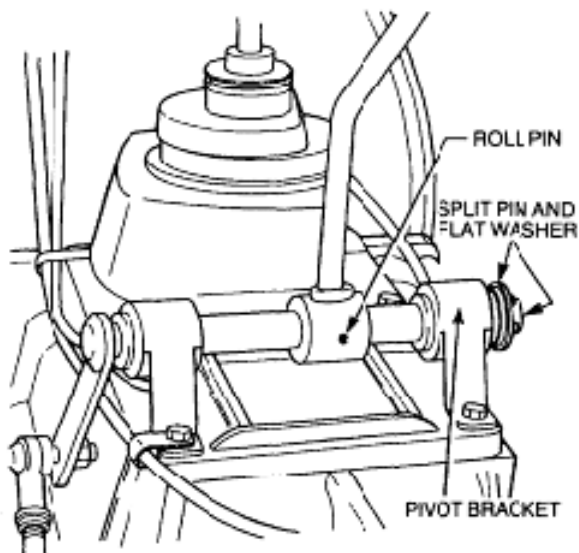

Figure 54 Transfer Case Selector Lever Removal
- Tap out the roll pin securing the transfer case selector lever to the cross shaft (Figure 54).
- Install the roll pin to secure the lever to the cross shaft (Figure 54).